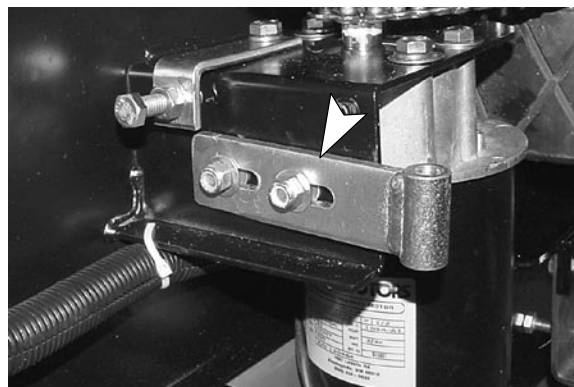

Fig. 19
7. Install the new squeegee mount bracket. Use two 5/16-18x1 screws, two 5/16 nuts and four 5/16 flat washers supplied with Kit. **DO NOT** tighten screws at this point. Make sure to install washers on both sides of the squeegee mount bracket (Figure 19).